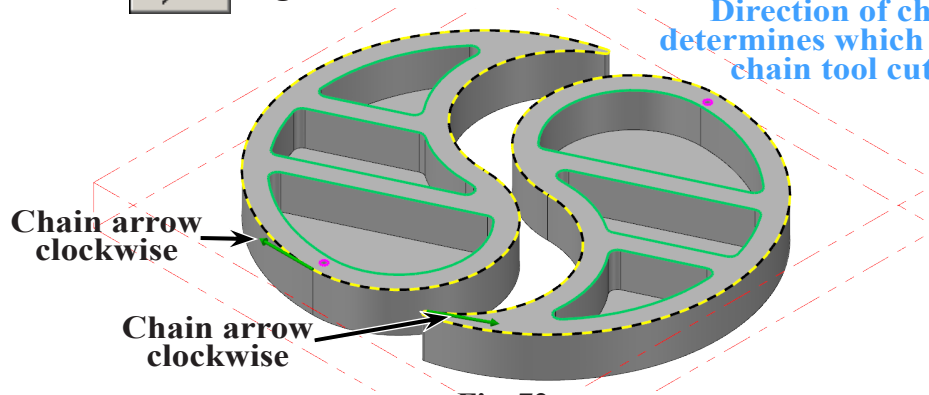

Fig. 72
Step 4. Click **both outside edge geometry** to chain both, **Fig. 72**. The chain arrow should point **clockwise** around **each** chain. If a chaining directions arrow is pointing in the opposite direction - click Reverse